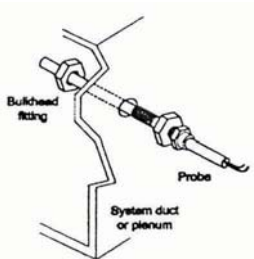

Figure 4. Installing the Bulkhead Sensor
5. Make the wiring connections. See Figure 4.